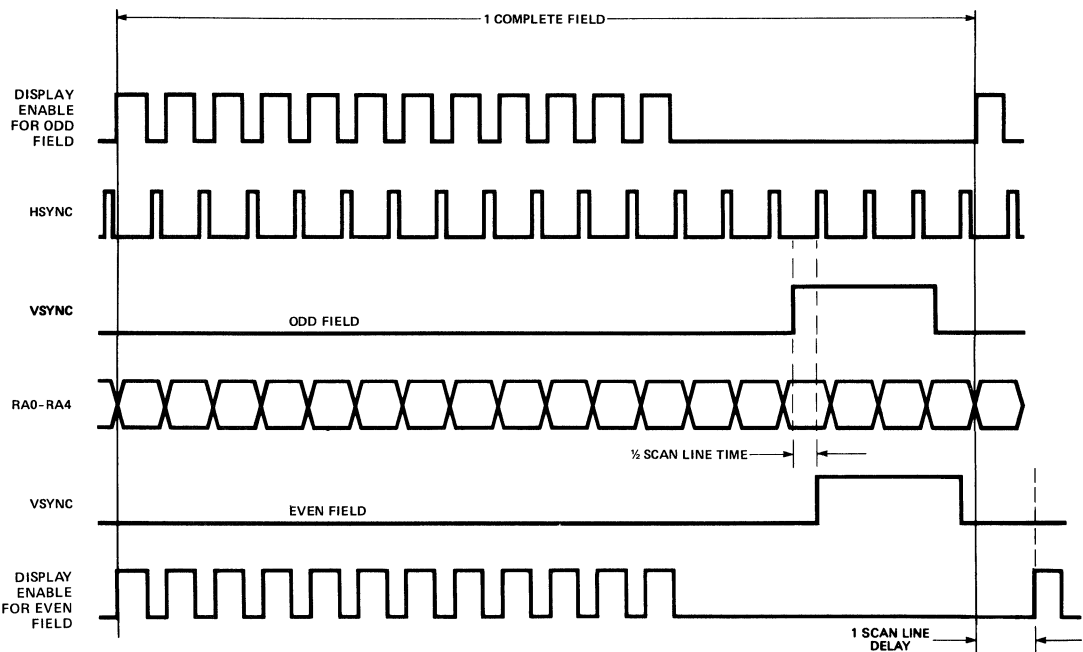

Figure 8. Interface Sync Mode and Interface Sync & Video Mode Timing
b) **Interlace Sync Mode.** This mode is used when the same information is to be displayed in both odd and even fields. Enhanced readability results because the spaces between adjacent rows are filled and a higher quality character is displayed. This is achieved with only a slight alteration in the device operation: in alternate fields, the position of the VSYNC signal is delayed by $1/2$ of a scan line time. This is illustrated in Figure 8 and is the only difference in the SY6845 operation in this mode